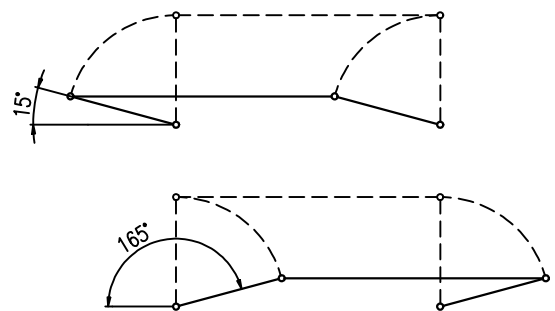

Fig.1
- While installing take care to have the angle between the lever and the pull-rod at least  $15^\circ$  and at most  $165^\circ$  (Fig.1).